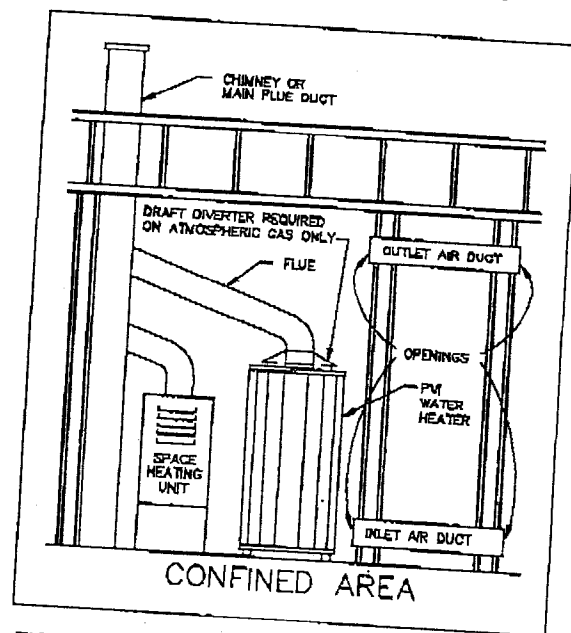

FIGURE 5 - Equipment located in confined spaces; all air from inside the building.
2. If air is taken from another interior space (see Figure 5), each opening specified above should have a minimum free area of 1 square inch per 1,000 Btu/h input.